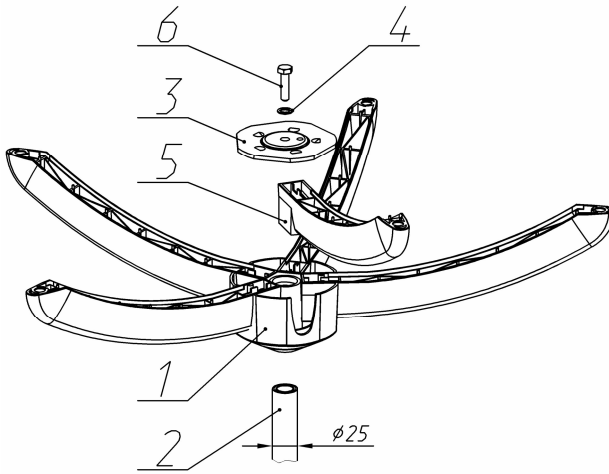
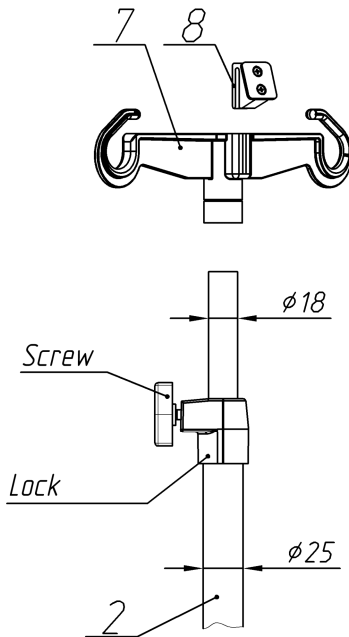

Fig. 1
Fig. 2
The assembly procedure is shown on Fig. 1 and Fig. 2.
1. Slip the mid-section (1) onto the $\varnothing 25$ mm tube (2) (Fig. 1).
2. Slip the feet (5) into the mid-section (1) (Fig. 1).
3. Fit the clamp disc (3) with grooves facing inward to the mid-section (1). The grooves of the clamp disc must be placed in the middle of each foot (5) (Fig. 1).
4. Tighten the clamp disc (3) with the toothed disc (4) and the screw M8 (6) using the screw-wrench S-13 (9) (Fig. 1). Tightening force is 15 Nxm.
5. Slip the bottom part of the hook (7) onto the $\varnothing 18$ mm inner tube (2) and hammering slightly bring it to the end position (Fig. 2). The tightness enables a movement-free seating.
6. Slip the holder (8) onto the hook slot (7) hammering it slightly (Fig. 2). The holder must be placed tightly and securely.
- 4.1. proper functionality of lock (Fig. 2);
Device adjustment by height is carried out by shifting the $\varnothing 18$ mm inner tube. Then its position is fixed by lock (Fig. 2). Fasten lock screw in such a way that it secures the position of the device and accessories located on the stand tightly.